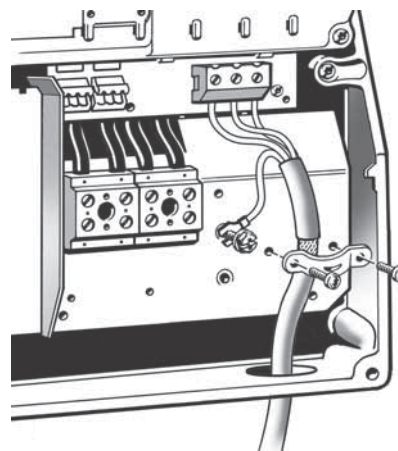

Fig. 7 Motor connection
1. Connect the ground wire to terminal 99 (PE). See fig. 7.
2. Connect the motor leads to the terminals 96 (U), 97 (V), 98 (W).